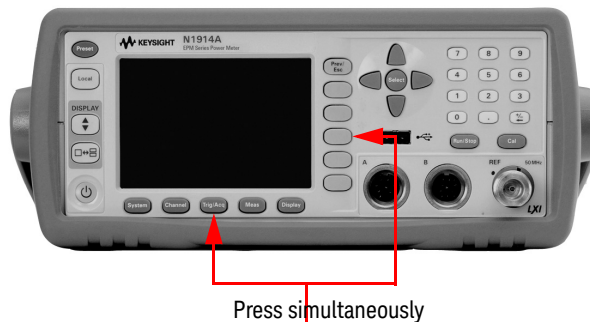

Figure 2-56 Activate memory erase using combo keys
- 1 Simultaneously press the fourth softkey from the top and the  key immediately upon power-on (see Figure 2-56).